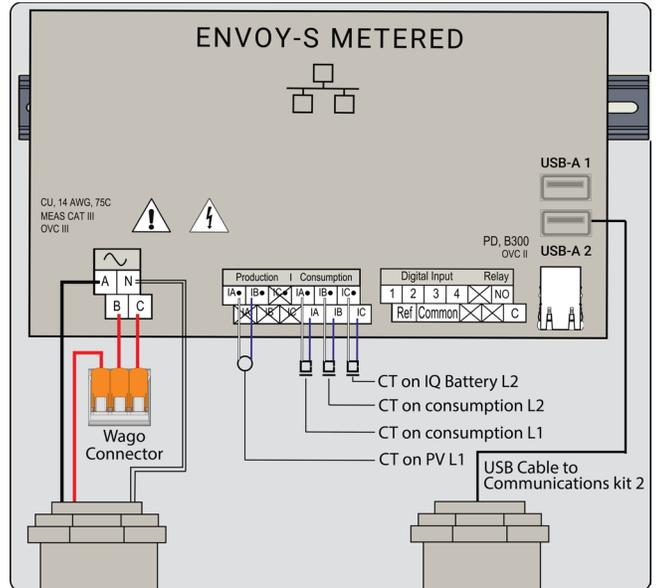
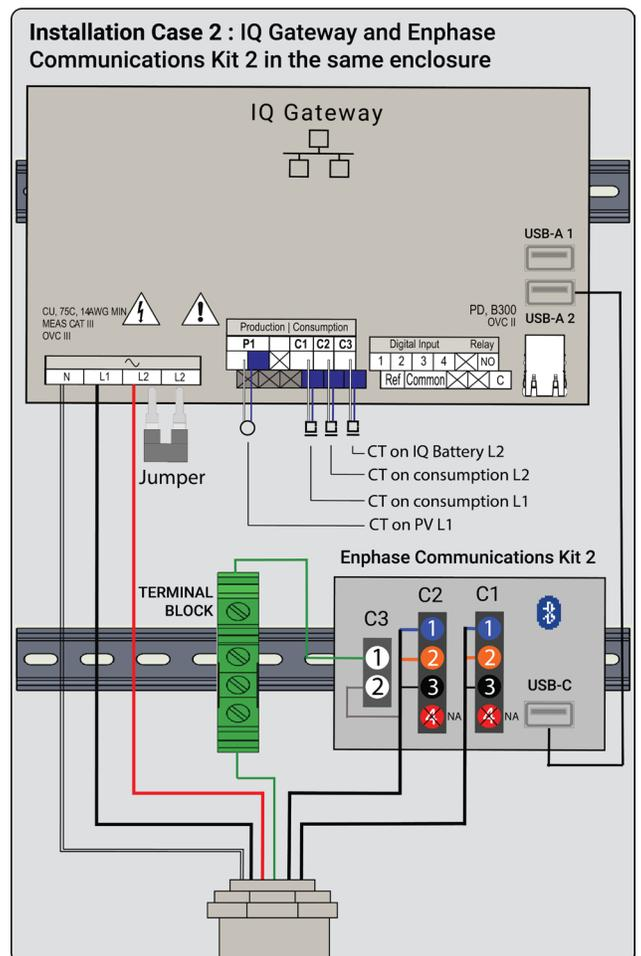

Figure 8: Envoy S Metered wiring
Figure 9: Wiring diagram when the IQ Gateway is installed in the Communications Kit 2 enclosure
- iii. Connect the CT lead wires to the C3 port on the consumption meters on the IQ Gateway. (refer to Figure 9 for the wiring diagram). In case of an Envoy S Metered, connect it to the IC• and IC consumption ports as shown in Figure 8.